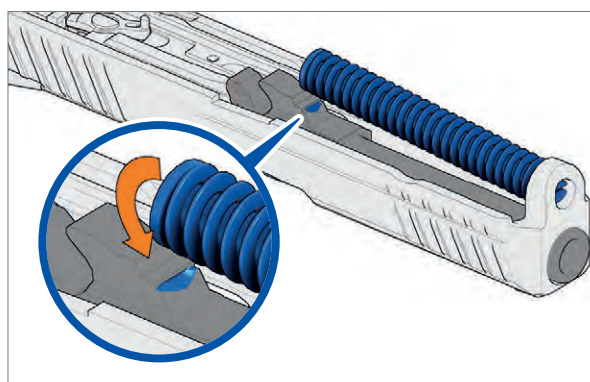

Fig. 55: Rest recoil spring
4. Rest recoil spring against barrel control surface (*Fig. 55*).